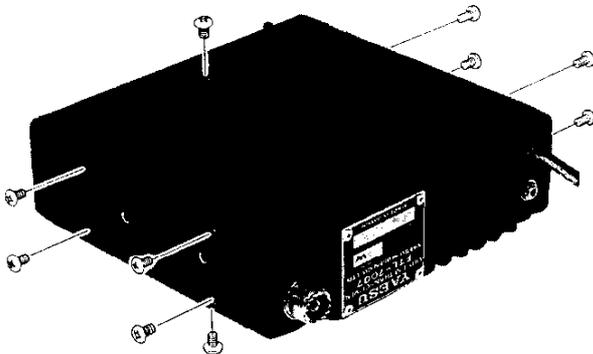

Figure 2
- 1) Remove the ten screws indicated in Figure 2, and remove the top and bottom covers, using care not to strain the speaker wires.